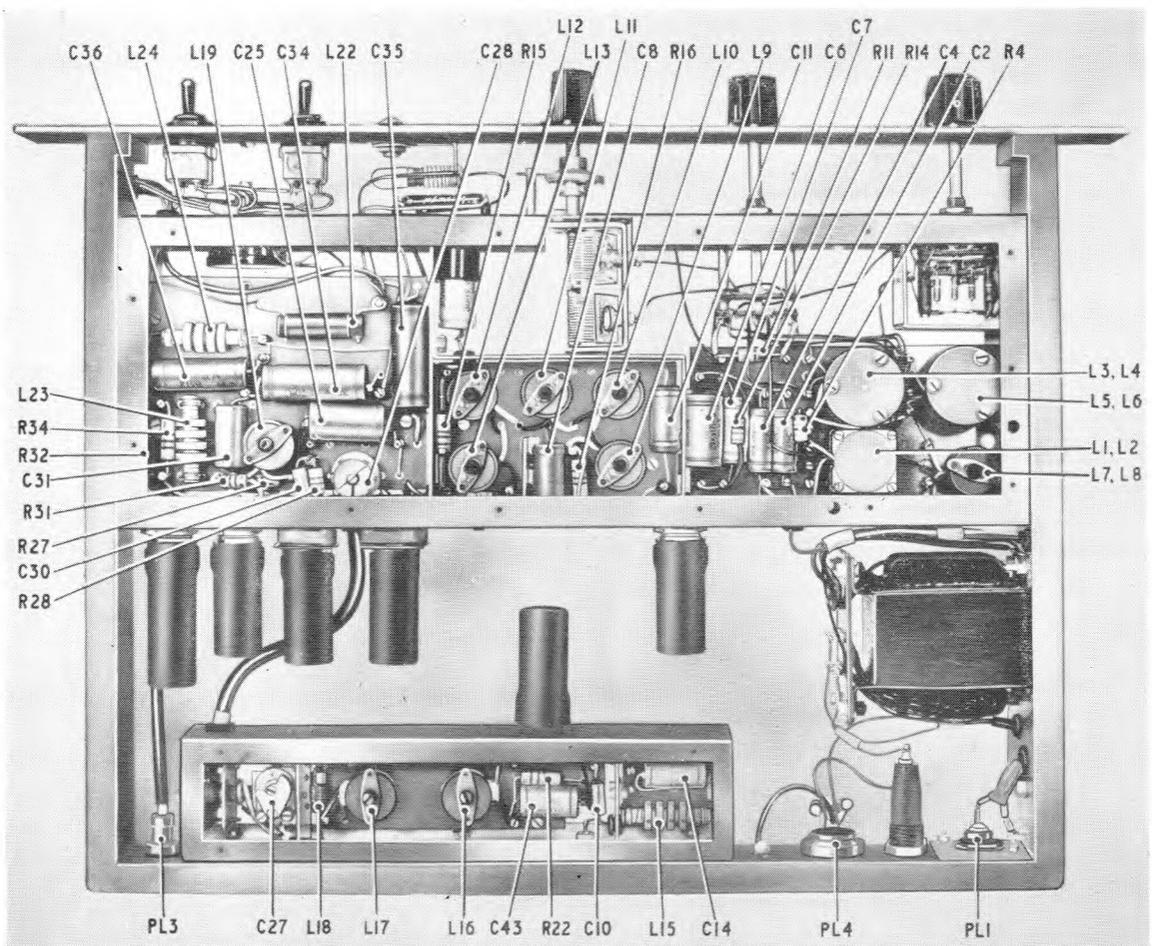

Fig. 1. Top of chassis
22. Locate the preset capacitor C28 (*fig. 1*) (mounted on top of the balanced mixer sub-unit) and set it to its mid-position.
25. Locate the inductor L16, L17 and the capacitor C27 (*fig. 1*) (mounted on top of the harmonic generator sub-unit) and tune each in turn for maximum reading in the valve voltmeter. Note the reading, which should not be less than 0.5 volts.
39. Locate the inductor L19 (*fig. 1*) (mounted on the balanced mixer sub-unit) and tune it for a peak reading in the valve voltmeter.
63. Locate the inductor L13 (*fig. 1*), mounted on the low-pass filter sub-unit, and tune it for a dip in the valve voltmeter, increasing the output voltage of the signal generator as necessary up to a maximum of 800mV.